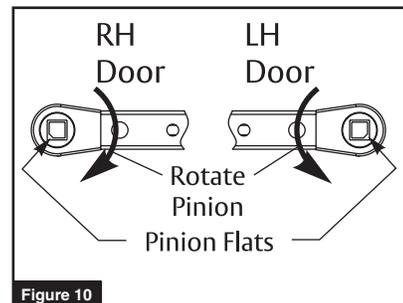

Figure 10
**NOTE: Pinion flat should be aligned as shown. (Figure 10)**